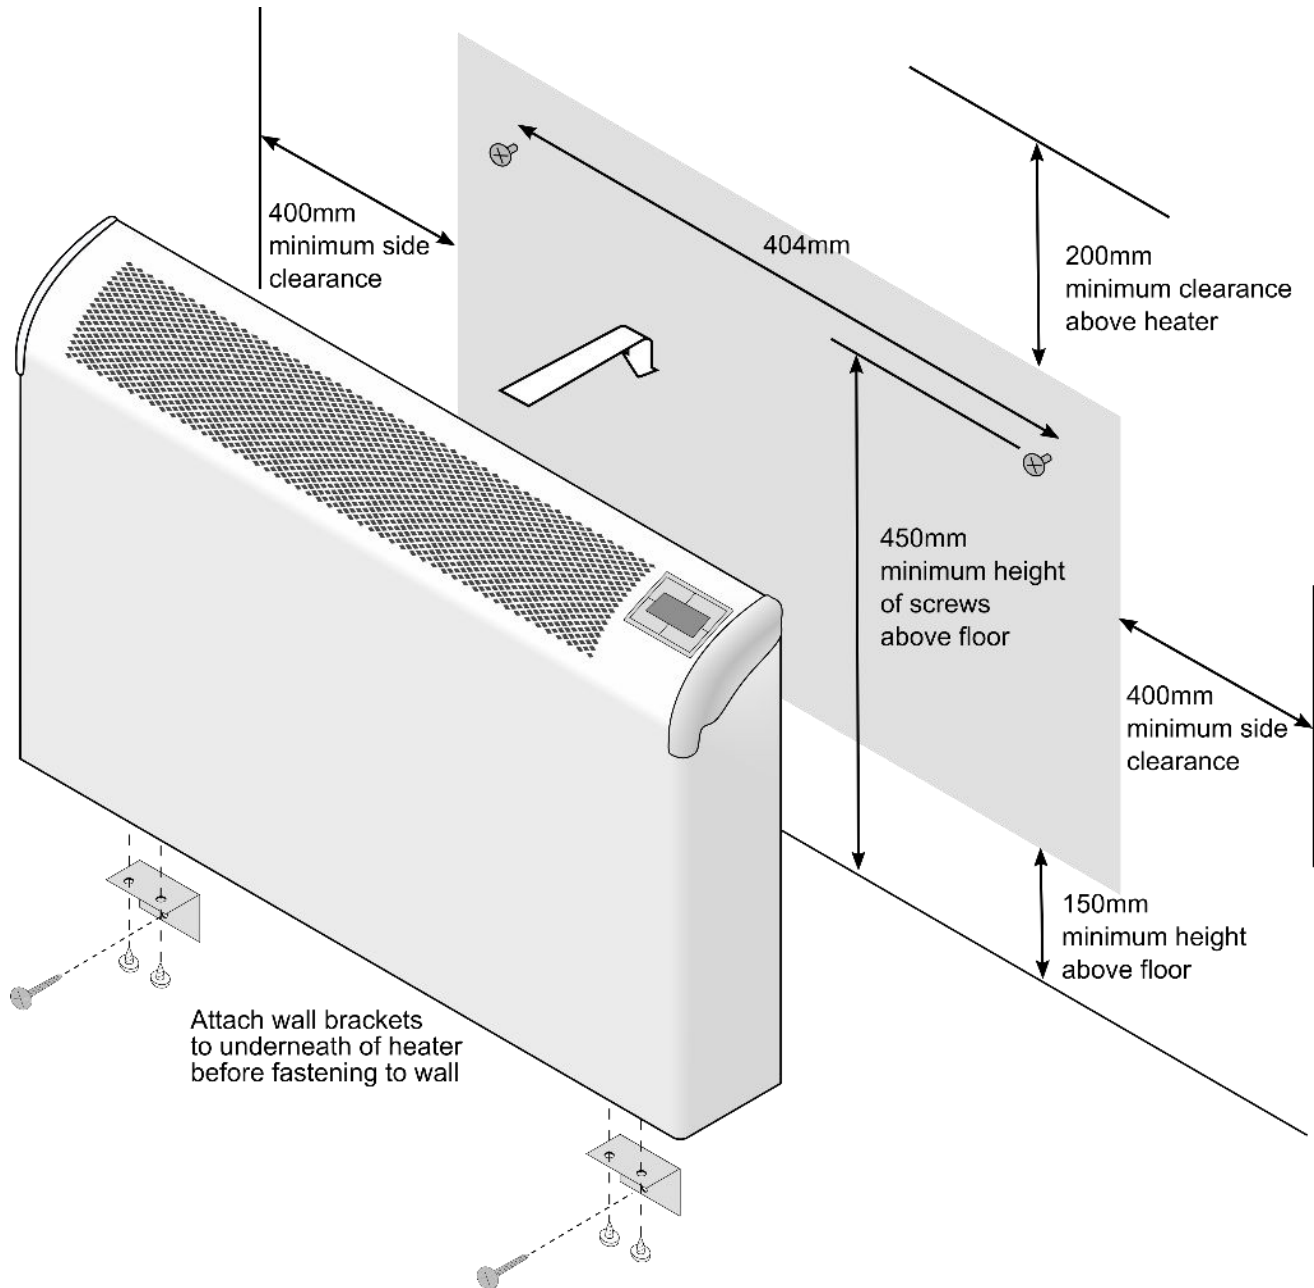

Fig.1
Located on the rear of the heater are two key-hole slots used for wall mounting. Attach screws to the wall following the recommended clearances in figure 1.
Remove the two wall brackets that are screwed to the bottom of the heater. Rotate them 180 degrees as shown in figure 1.
- Mark screw fixing positions on the wall in accordance with dimensions shown on Fig.1 on page 3.